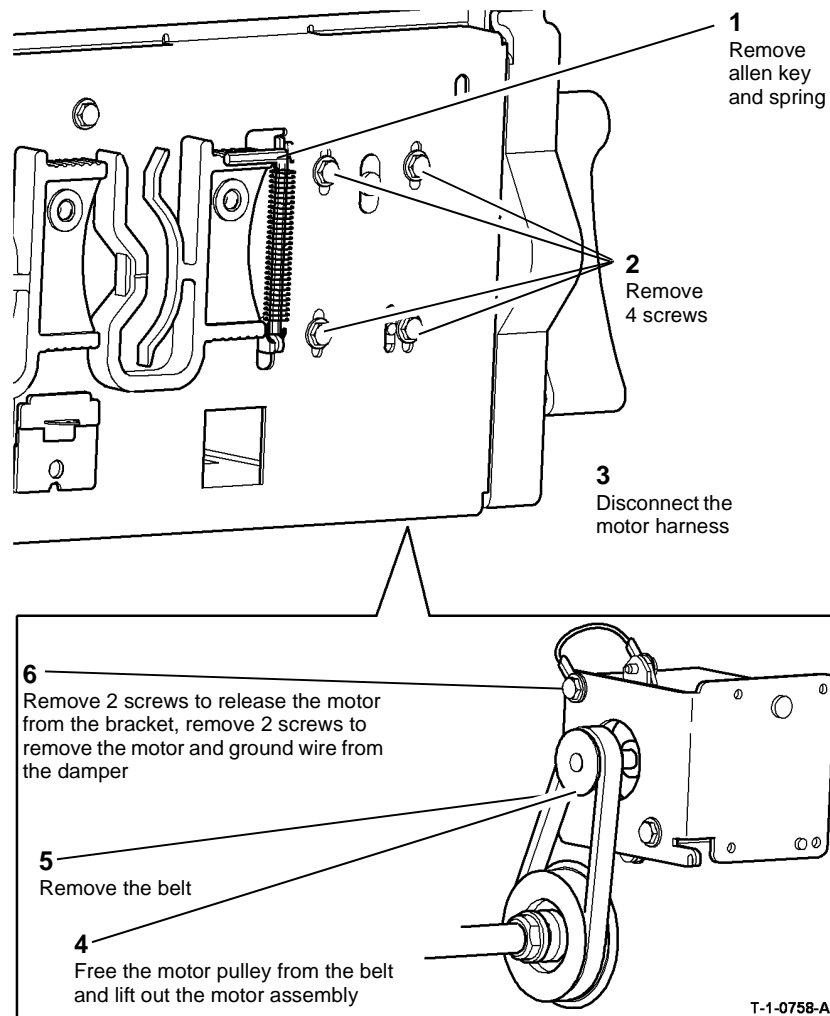

Figure 1 Motor removal
2. Remove the BM backstop motor, Figure 1.